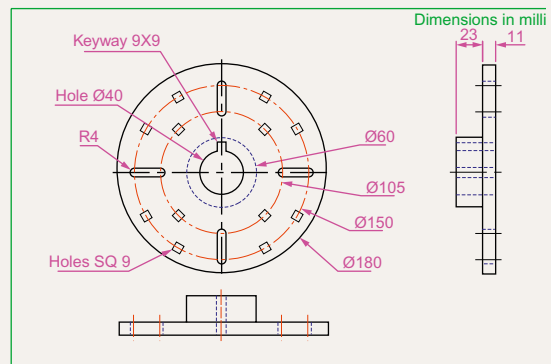

Fig. 13.20 Exercise 5 – dimensions
6. Working in a **Three: Left** viewport setting, construct a 3D model of the faceplate to the dimensions given in Fig. 13.20. With the **Mirror** tool, mirror the model to obtain